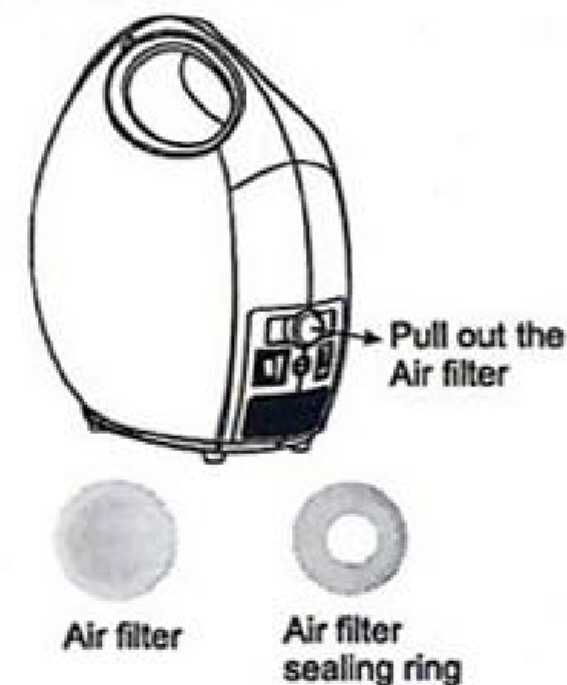

Fig. 9
(1) Air filter is located at the back of the oxygen concentrator. Pull the filter out and remove the filter sealing ring. (As shown in Fig. 9).
(2) The air filter shall be replaced at a time interval which shall be determined according to the actual service time and environmental impact.
(3) The filter shall be replaced immediately regardless of the length of its service time as long as its surface turns black.